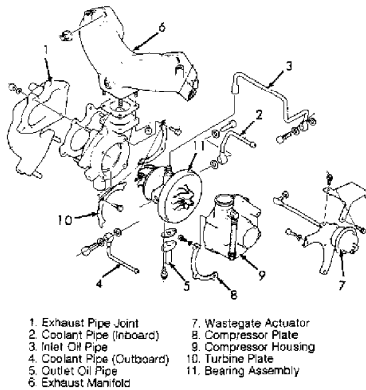
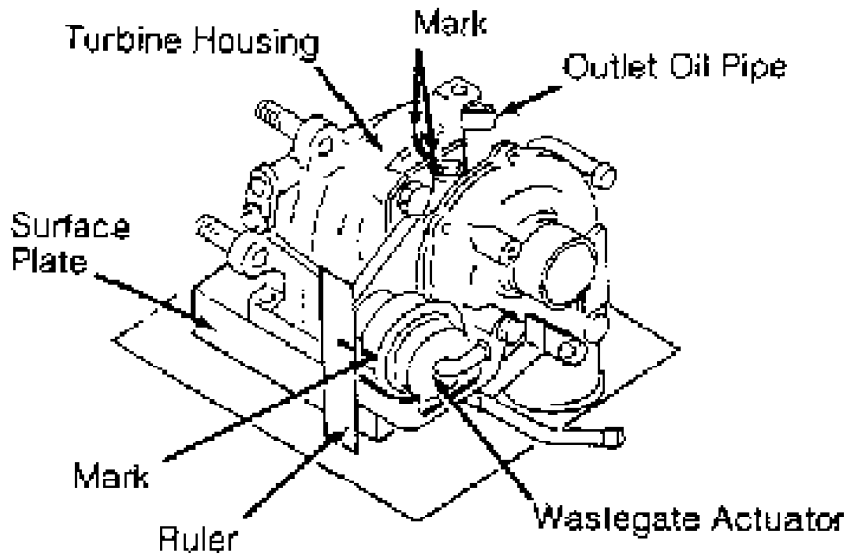

Fig. 32: Exploded View of Turbocharger (MX-6 & 626)
Fig. 33: Marking Turbocharger Before Disassembly (MX-6 & 626)
1) Drain coolant. Remove air hoses and air by-pass valve. Remove heat shields. Disconnect oil hoses from oil pipes. See Fig. 32. Remove coolant hoses, EGR pipe and oxygen sensor.
1) Remove exhaust pipe joint. See Fig. 32. Remove coolant pipe (inboard), inlet oil pipe and coolant pipe (outboard). Remove outlet oil pipe. Remove exhaust manifold. For reassembly reference, place turbocharger on a surface plate. See Fig. 33. Mark turbine plate and turbine housing in line with outlet oil pipe.
2) Mark wastegate actuator as illustrated. See Fig. 33. Measure and record distance from surface plate to mark. Remove wastegate actuator, compressor plate and compressor housing. Remove turbine plates and bearing assembly.